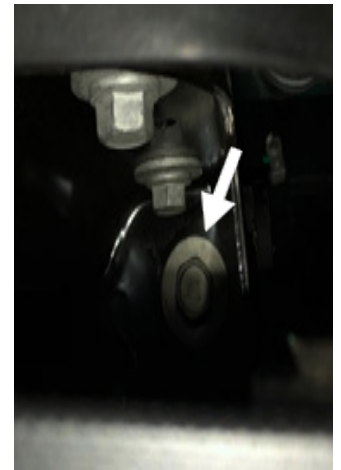

*Figure 9*
**9. From under the truck: use a 15mm socket wrench to remove the two (2) back bolts on the bumper support bracket on both sides. Figure 9.**
**10.** With the grill gone you can access the bumper mounting bolts on the top deck. Use a 15mm socket wrench to remove the two (2) bolts one of the top (Figure 9) and one on the bottom (Figure 10). The bumper can now be removed from the truck. Figure 10-11.